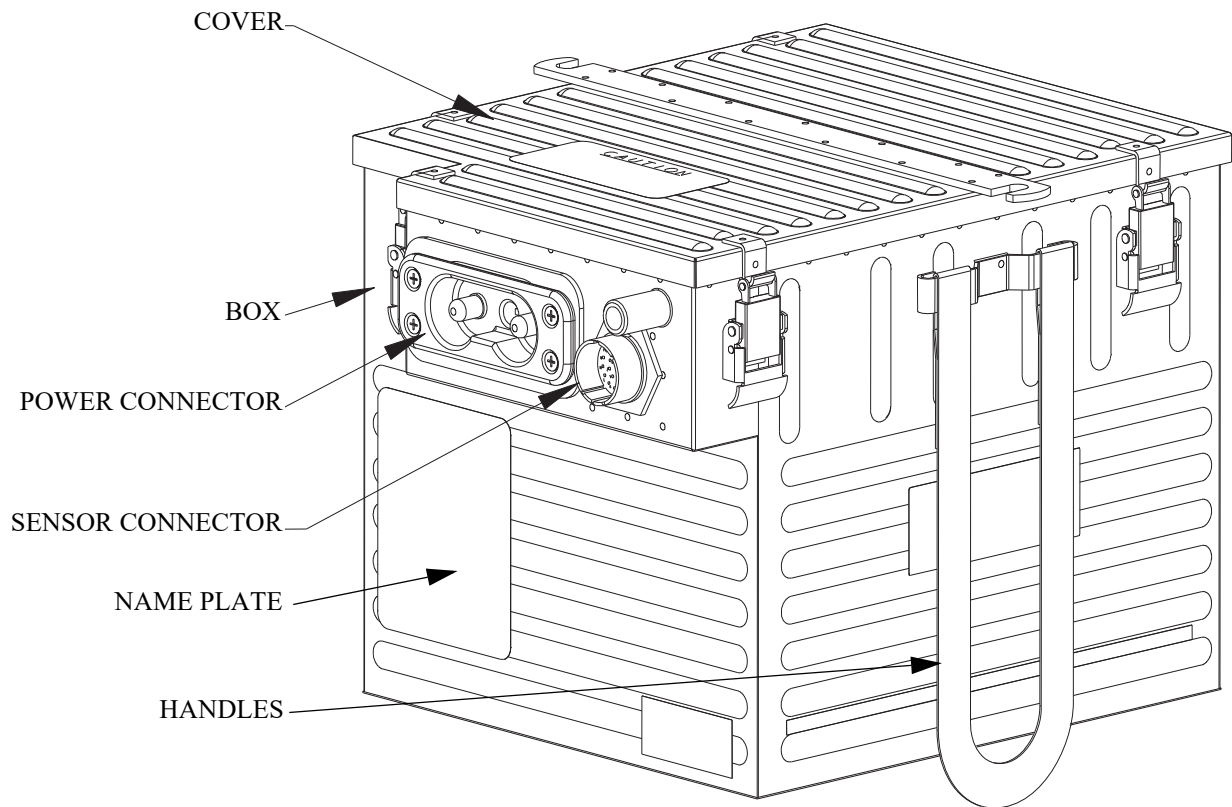

Figure 1 - 427CK-1 Nickel-Cadmium Aircraft Battery
**NOTE:** All item numbers from the Illustrated Part List (IPL, Fig. 1) are referred by "(###)". Item numbers are linked by hyper-text to the IPL. Decimal of item numbers referred by "(###.#)" are for illustration aid only and are not listed in the IPL.